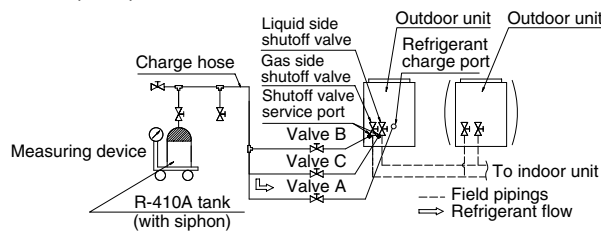
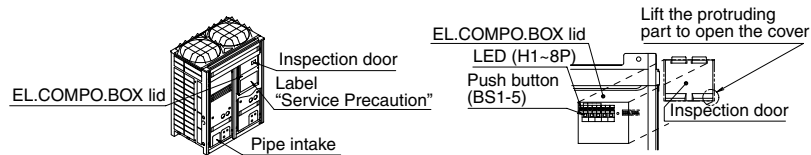

fig 32
fig 33
- For performing the automatic refrigerant charging operation, the push button on the PC board (A1) of outdoor unit are used. (See figure 33.) And the refrigerant are charged from the refrigerant charge port via the valve A. (See figure 32.) For operating the push button and opening or closing the valves, follow the procedure.
- (1) Open the liquid pipe, suction gas pipe shutoff valves. (The valve A~C must be closed. See figure 32.)
- (2) • Close the EL. COMPO. BOX (1) lid and all front panel except on the EL. COMPO. BOX (1) side. (*1) And turn the power to the outdoor unit and all connected indoor units. (*2)
- (3) Check the LED. And push the MODE button (BS1) once if the LED displays is not as below.
After that, open the valve A immediately (See figure 32) (*6) and watch the remote controller display of indoor unit.
After that, open the valve A immediately (See figure 32) (*6) and check the charged amount by measuring device.
- (8) When the required amount of refrigerant is charged, close the valve A (See figure 32) (*8) and push the RETURN button (BS3) once. And then go to procedure (9).
(9) Push the MODE button (BS1) once, and the charging is complete.